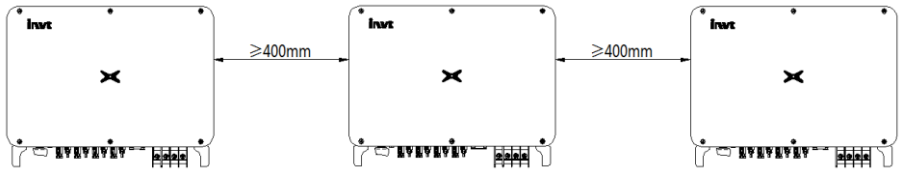

Fig 4.5 Size requirements for side-by-side installation
(4) The installation surface should be perpendicular to the horizontal line, as shown in Figure 4.5. Please install the inverter vertically or backward  $\leq 15^\circ$  to facilitate the heat dissipation of the machine. Do not tilt the inverter forward, horizontally, upside down, leaning too far, or tilting to the side.